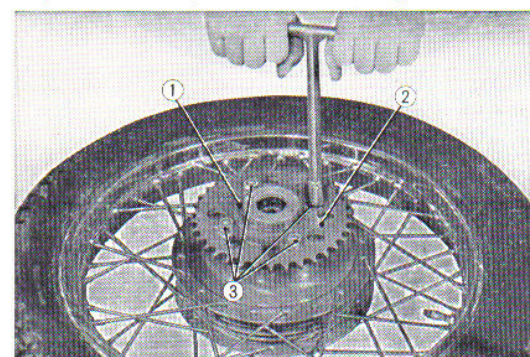

Fig. 4.92 Removing the final driven sprocket
5. Remove hub bearing retainer cap and 73.8mm circlip, straighten the tongue washer, and remove the 10mm nut. The final driven sprocket can then be separated from the rear wheel hub. (Fig. 4.92)